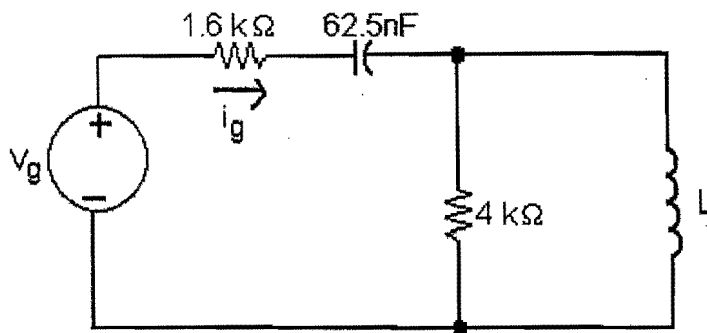

Figure 5
- The source voltage in the circuit in Figure 5 is $V_g = 96 \cos(10000t) \text{ V}$. [10 marks]